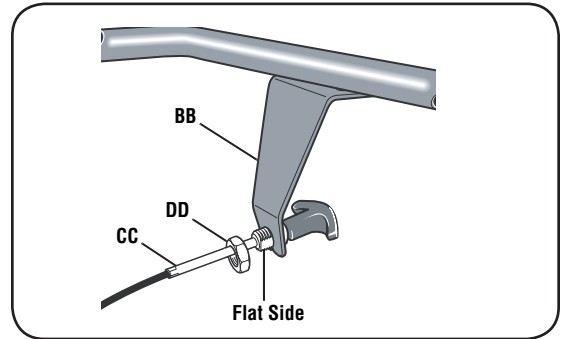
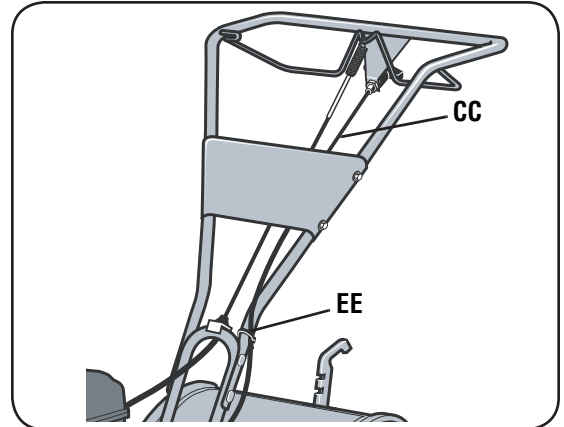

Fig. 2-8: Install reverse cable bracket and reverse clutch cable.
Fig. 2-9: Route reverse clutch cable (CC) as shown. Attach with cable tie (EE).
1. Unwrap the reverse clutch cable (CC, Fig. 2-8 and Fig. 2-9) from its shipping position and route it up to the handlebar. Be sure that the cable is routed beneath the Forward Clutch Bail.
2. Insert the cable (CC, Fig. 2-8) through the slot in the cable bracket and position the flat side of the threaded assembly next to the flat side of the hole. Slide the hex nut (DD) up the cable and tighten it securely.
3. Fasten the reverse clutch cable to the left side handlebar with a cable tie (EE, Fig. 2-9).